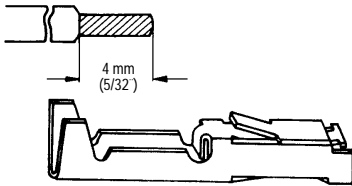

Figure 1
1. Strip the wire insulation as shown in Figure 1. Crimp pins can accept 22 to 26 AWG wire.